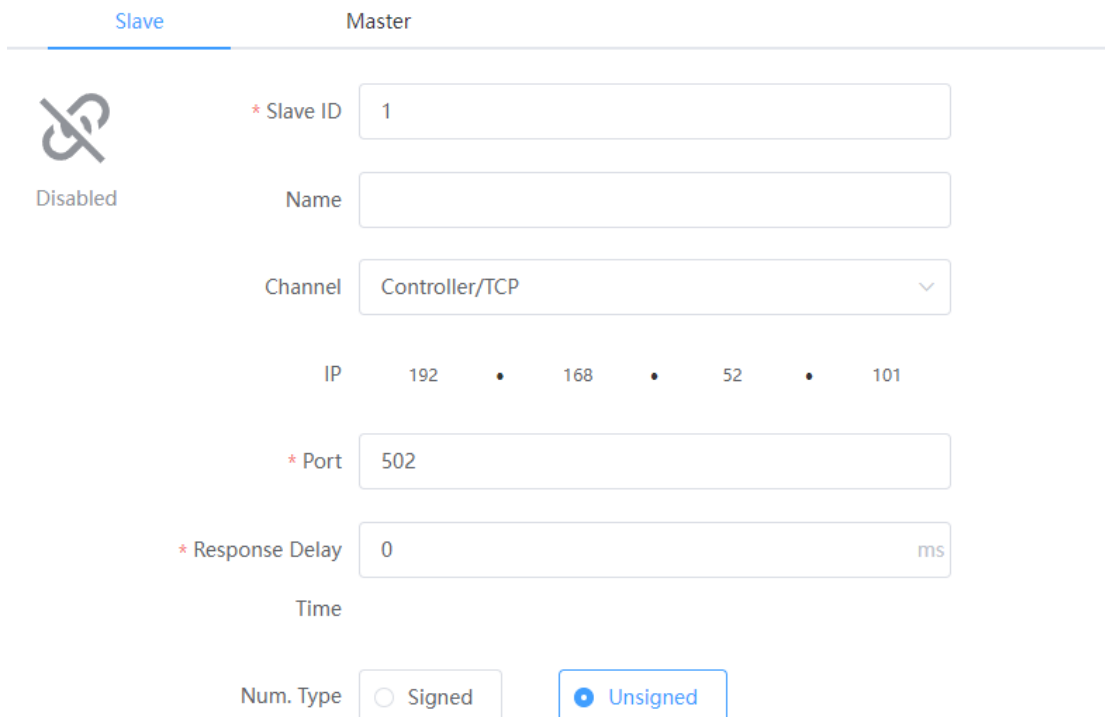

Figure 5.9 Bus Configuration Window
1. Click "Menu Button" → "Communication" → "Bus Configuration" in sequence to enter the interface shown in Figure 5.9.